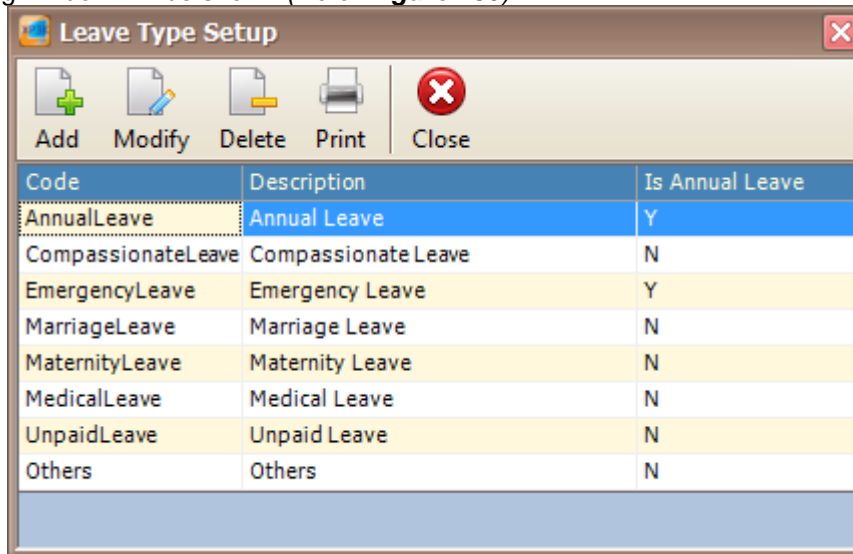

Figure 235 - Leave Type Setup
2. The following window will be shown (Refer **Figure 235**).